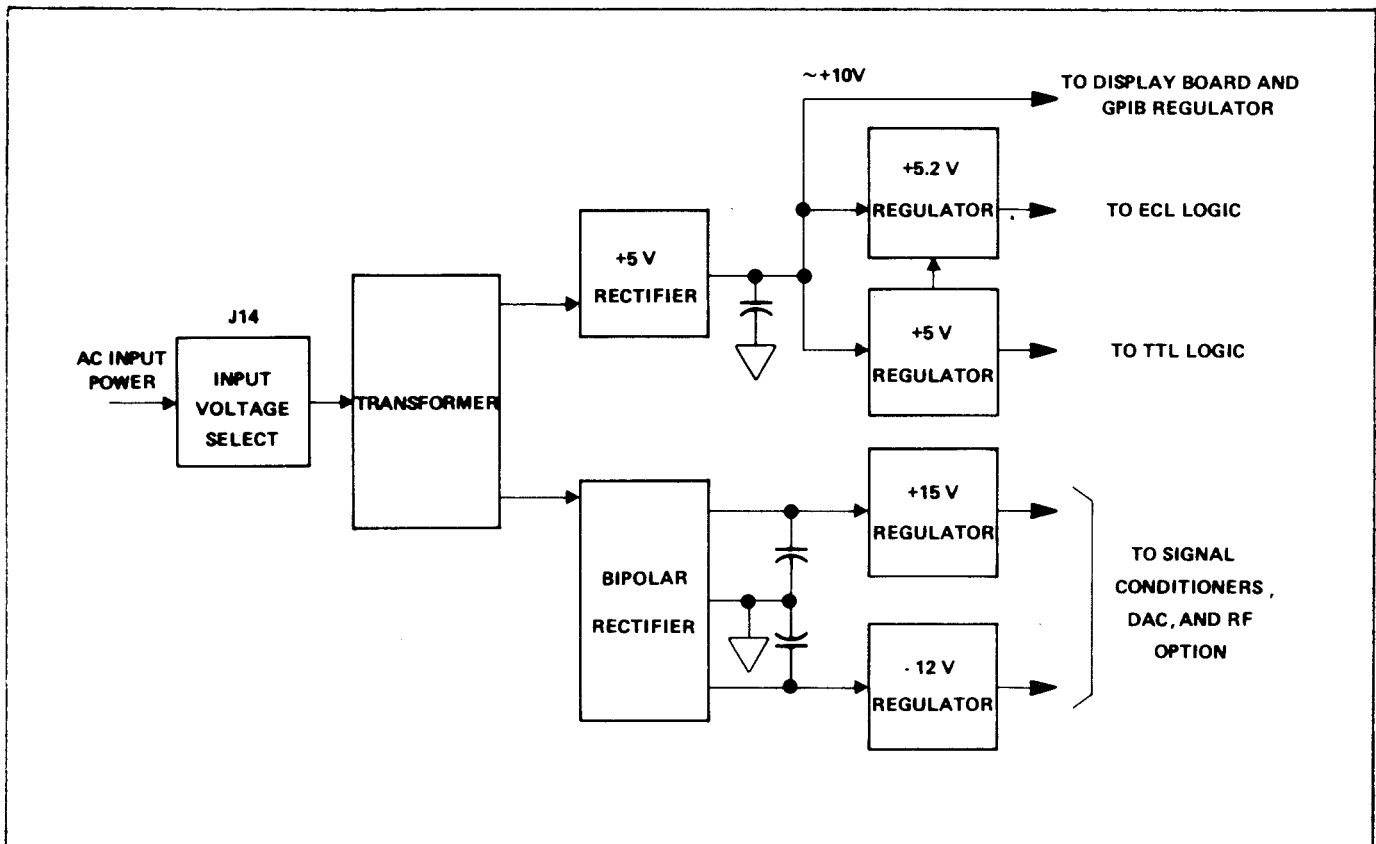

Figure 1.42 - Simplified Power Supply Diagram
1.4.24.1 The power supply converts 100, 120, 220, or 240 Vac to the dc regulated power required by the TTL logic circuits, ECL logic circuits, display board, GPIB, signal conditioners, and the RF option board. The input voltage is selected by installing the jumper board in connector J14 with the supplied input voltage matching the jumper board edge installed in the connector. The fan is connected to the 120 Volt winding of the transformer and is unaffected by the input voltage selection. A simplified diagram of the power supply is shown in figure 1.42. Two rectifiers are connected to the two secondary windings of the